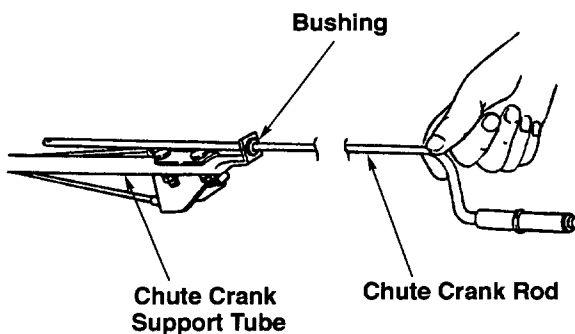

Figure 8
- After first making sure the bushings are installed in both the rearward end and the eye bolt of the chute crank support tube assembly (1-5), slide the chute crank rod assembly (1-8) into the support tube assembly. Refer to Figure 8.